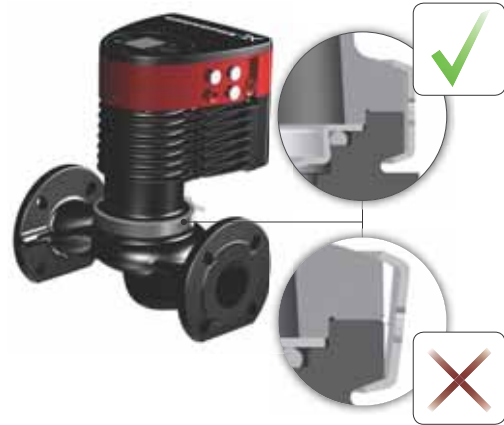

Fig. 9 Fitting the pump head to the pump housing
3. Make sure that the contact face of the pump housing and that of the pump head are in contact before you tighten the clamp. See fig. 9.
Observe the position of the clamp before you tighten it. Incorrect position of the clamp will cause leakage from the pump and damage the hydraulic parts in the pump head. See fig. 9.